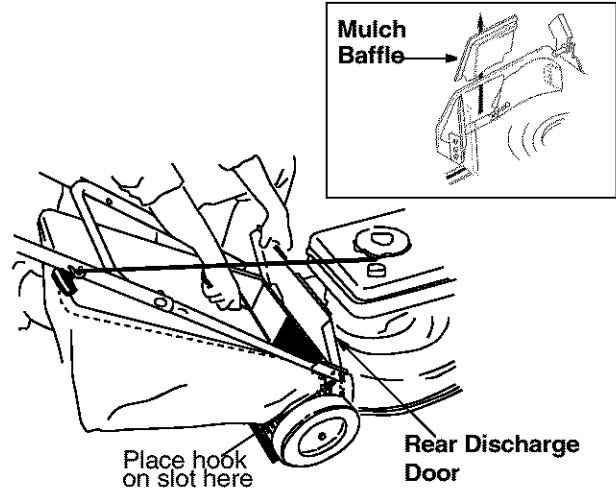

Figure 10
baffle, lift the rear discharge door on the mower. Remove the mulching baffle. See Figure 10 inset.
- **To attach the grass catcher:** Lift the rear discharge door on the mower. Place the hooks on the grass catcher into the slots in the handle bracket assemblies. Release the rear discharge door. See Figure 10.
- **To remove the grass catcher:** Lift the rear discharge door on the mower as shown in Figure 10. Lift the grass catcher up, out of the slots in the handle bracket assemblies. Release the rear discharge door.